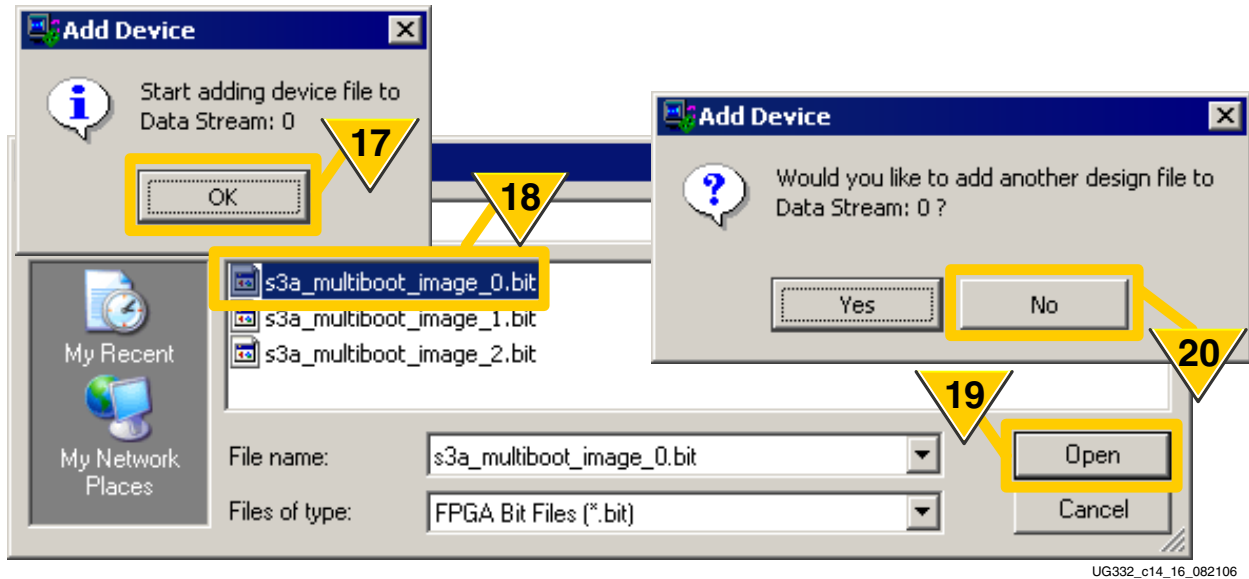

Figure 14-17: Select the First (Default) Configuration Image
17. As shown in Figure 14-17, page 269, add the initial FPGA bitstream. This is the design that is loaded into the FPGA at power-up, or whenever the PROG_B pin is pulsed Low. This is also the default bitstream that is automatically loaded if the Configuration Watchdog Timer (CWDT) expires during a MultiBoot operation.